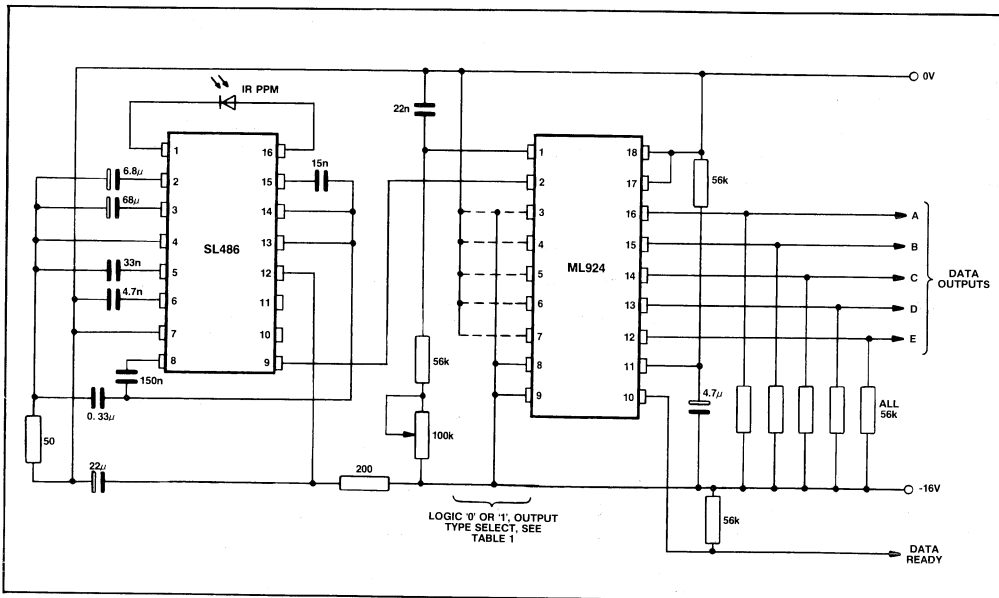

Fig. 3 Application for receiving 32 codes, from SL490 transmitter, in mode 1
Each output E to A directly corresponds to bits e to a in the PPM word. The type of output available can be either latched (LA) or momentary (M) according to the combination of C_0 to C_5 used, as given in Table 1. This mode allows direct control of all five bits on one receiver, by the 32 codes from an SL490B transmitter. Fig.3 shows the ML924 used in this mode in conjunction with an SL486 infra-red pre-amplifier.